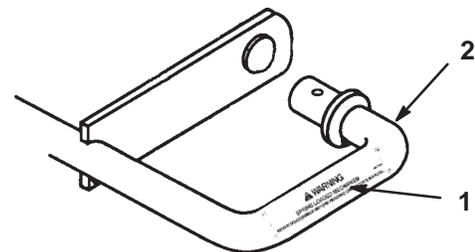

Figure 10
10. Install warning decals to the left and right side of the lift arms (Fig. 10).